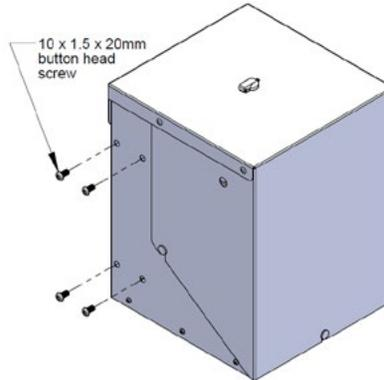

Figure 2. Operator Mounting Screws
1. Remove the 4 - 10 x1.5 x 20mm button head screws on the side of the operator that will be mounted to the gate post. See Figure 2. Discard the screws.